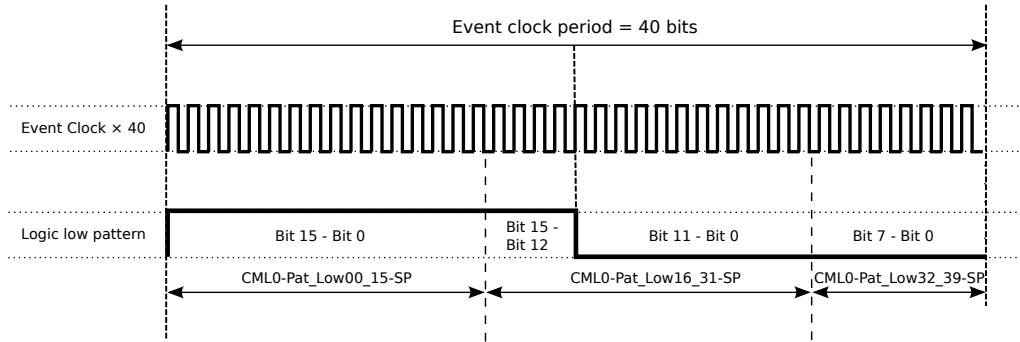

Figure 4: Generate the event clock
This tutorial demonstrates how to configure CML0 output of EVR-VME-300 to generate a clock signal, that has the same phase and frequency as the event clock. To achieve this, the **FrontUnivOut6** output source is set to **logic low** and the CML outputs are enabled. This causes the logic low pattern of the CML pattern mode to be continuously outputted. The configurable pattern, as seen in Figure 4, is 40 bits long and is sent out with a bit rate of 40 times the event clock rate. It is configured to replicate the event clock phase and frequency.
- CML0-Pat\_Low00\_15-SP=0xFFFF: Set logic low pattern bits 0-15. The Figure 4 shows that the bits 15-0 must be set as follows: 1111 1111 1111 1111, which translates to 0xFFFF. Each bit represents 1/40 of the event clock period.
- CML0-Pat\_Low16\_31-SP=0xF000: Set signal low pattern bits 16-31. The Figure 4 shows that the bits 15-0 must be set as follows: 1111 0000 0000 0000, which translates to 0xF000.
- CML0-Pat\_Low16\_31-SP=0x0: Set signal low pattern bits 32-39, as seen in Figure 4. Note, that only bits 32-29 (lower 8 bits) can be used.